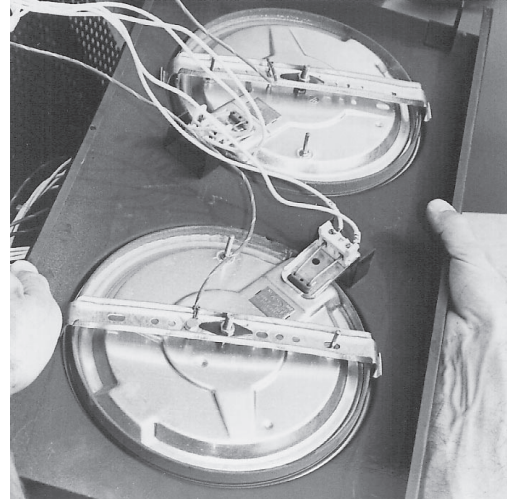

Fig. 16
5. Lift up the left top aeration plate assembly to expose the top burner box area. (Fig. 16)